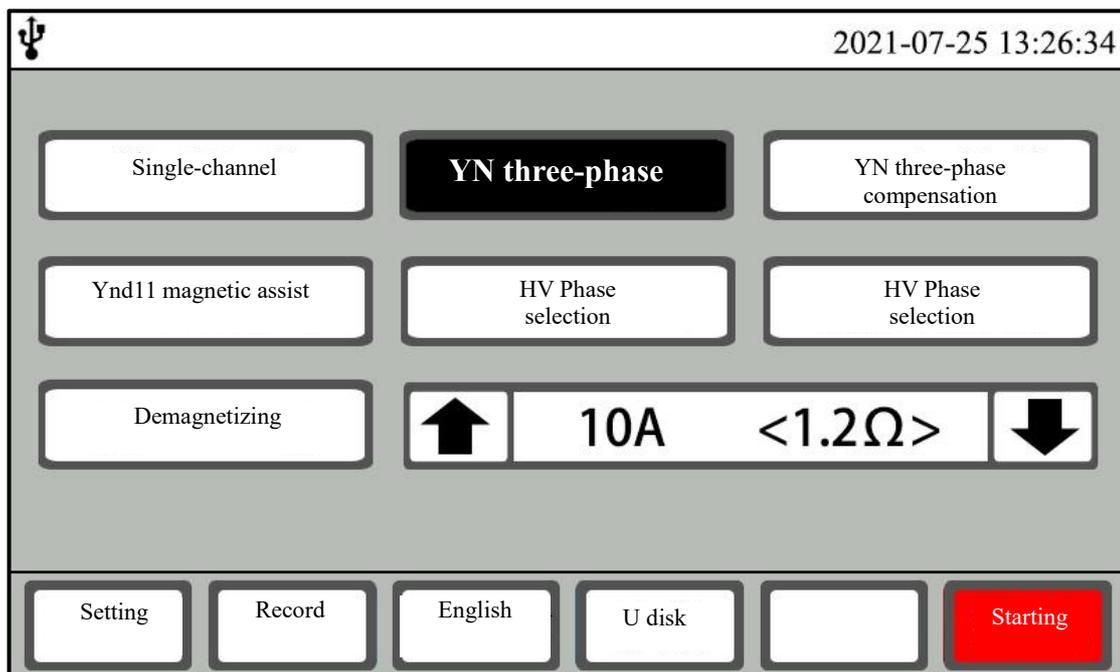
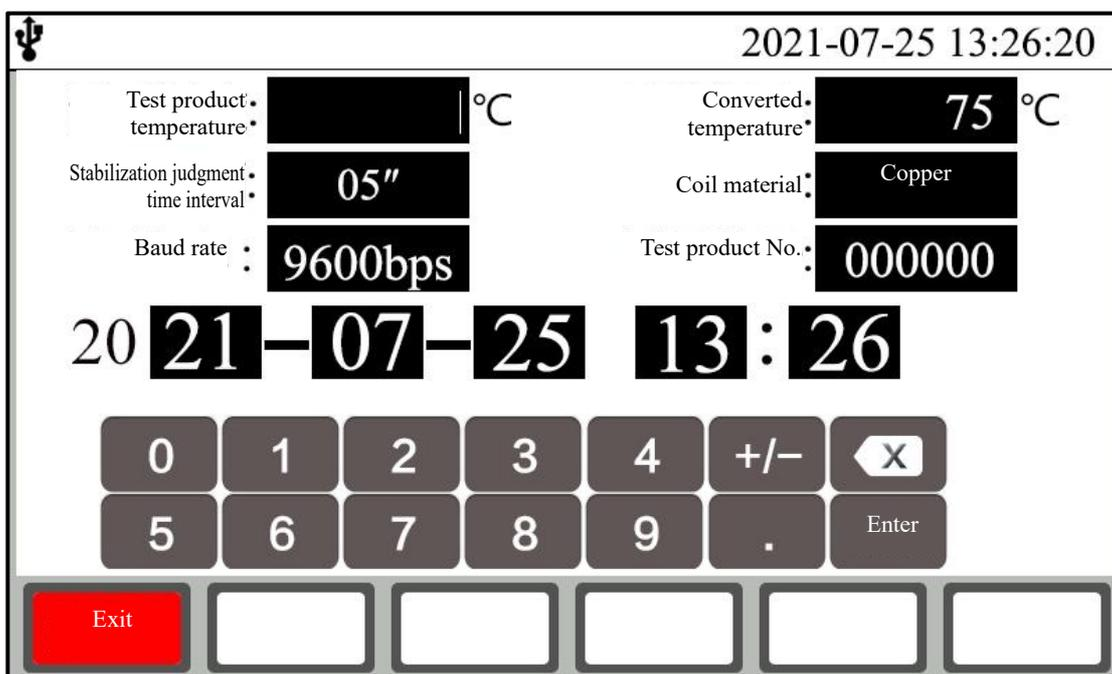

figure 7
figure 8
The company LOGO interface will be displayed on the display, which will be automatically skipped for about 3 seconds, and the main interface for entering the selection setting is shown in Figure 7:
2. **Measurement method selection:** The display screen shows the interface of Figure 7, at which time the **desired measurement method** can be **selected** by tapping the test mode option.
4. **Test current selection:** The display screen shows the interface of Figure 7, at this time, the required measurement current can be selected by tapping the **current selection up and down arrow** keys, and each time it is touched, the display screen will be displayed in a loop The corresponding test current and the maximum resistance of the test at the corresponding current. (In the case of meeting the resistance test range, a larger current should be used as much as possible but the rated power of the specimen should also be considered, and the test exceeding the rated power of the specimen can cause damage to the specimen.) The fever of the test product also has a certain impact on the test data and should be considered comprehensively.)
5. **Parameter settings:** The display screen shows the interface of Figure 7, at this time, you can enter the parameter setting interface as shown in Figure 8 by tapping the "**Settings**" button. In this interface, you can set the temperature of the test product, the conversion temperature of the test product, the time interval of data